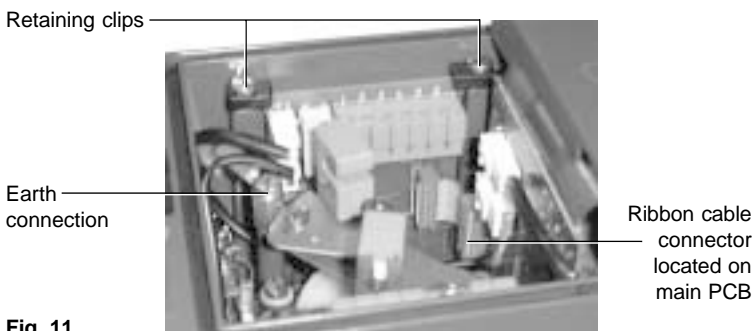

Fig. 11
2.3.11 The earth cable should now be reconnected to the earth adaptor (11) and secured using the original M4 x 8 screw (refer to Fig. 11). When correctly located, the plastic retaining clamps can be tightened to secure the options board in place. **Note:** With the retaining clips secured there will be some float of the PCB.
2.3.12 Prepare the ribbon cable by ensuring it is at right angles to the options PCB. Engage the ribbon connector onto the main PCB socket permanently pushing in place to locate. This should be done with light finger pressure only (refer to Fig. 11) do not apply force, (only required with 4 - 20 mA retransmit and software switch options).